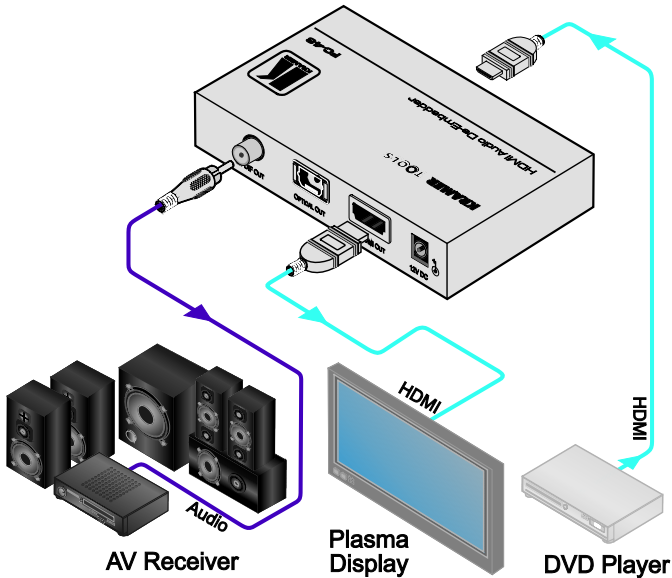

Figure 2: Connecting the FC-46 HDMI Audio De-Embedder
To connect the **FC-46**, as the example in Figure 2 illustrates, do the following²:
4. Connect the 12V DC power adapter to the power socket and connect the adapter to the mains electricity (not illustrated in Figure 2).